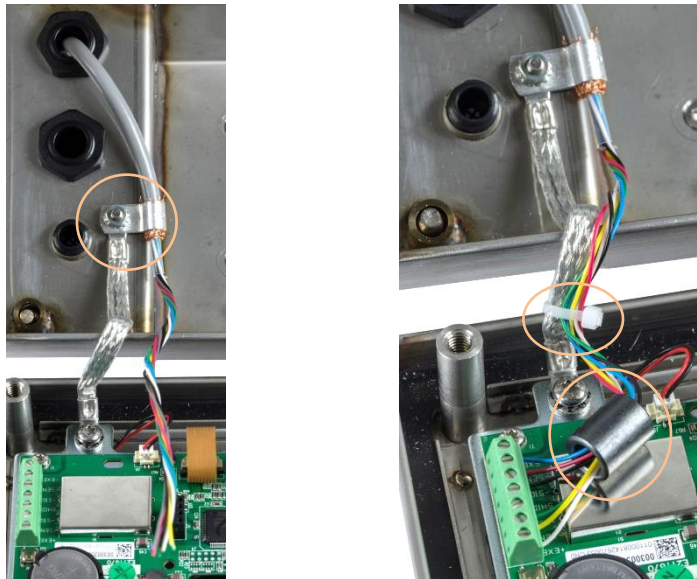

Figure A-28: Analog Load Cell Cable Ferrite Installation and Chassis Grounding, IND236
5. Connect the grounding clip to the enclosure using the enclosure hinge attachment screw, as shown in Figure A-28 (left).